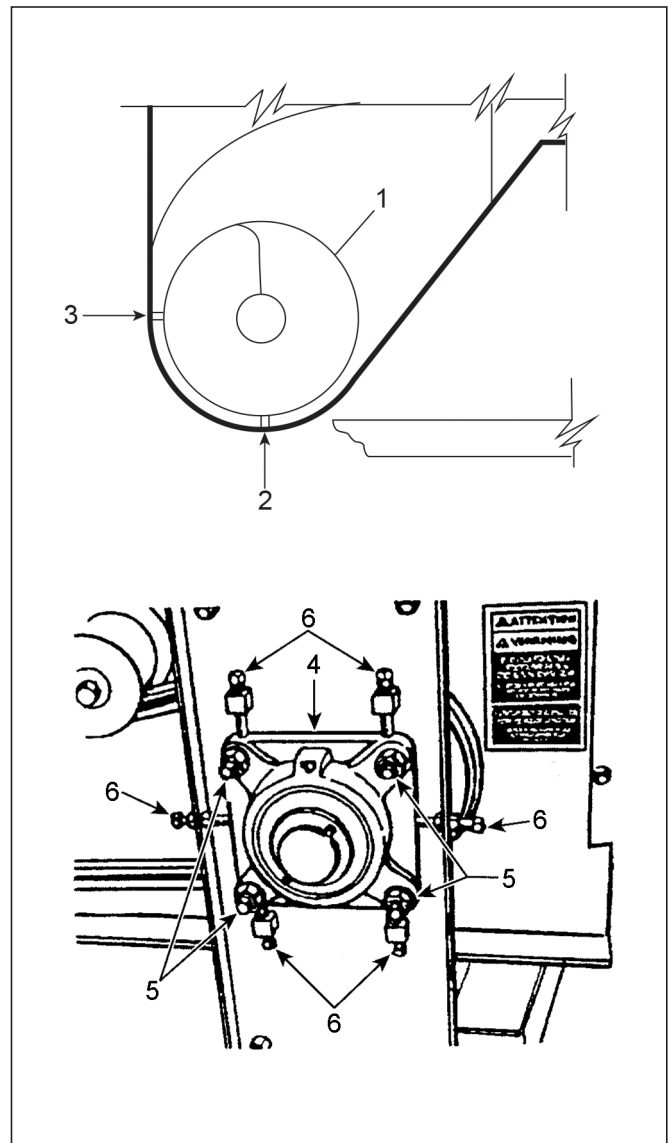
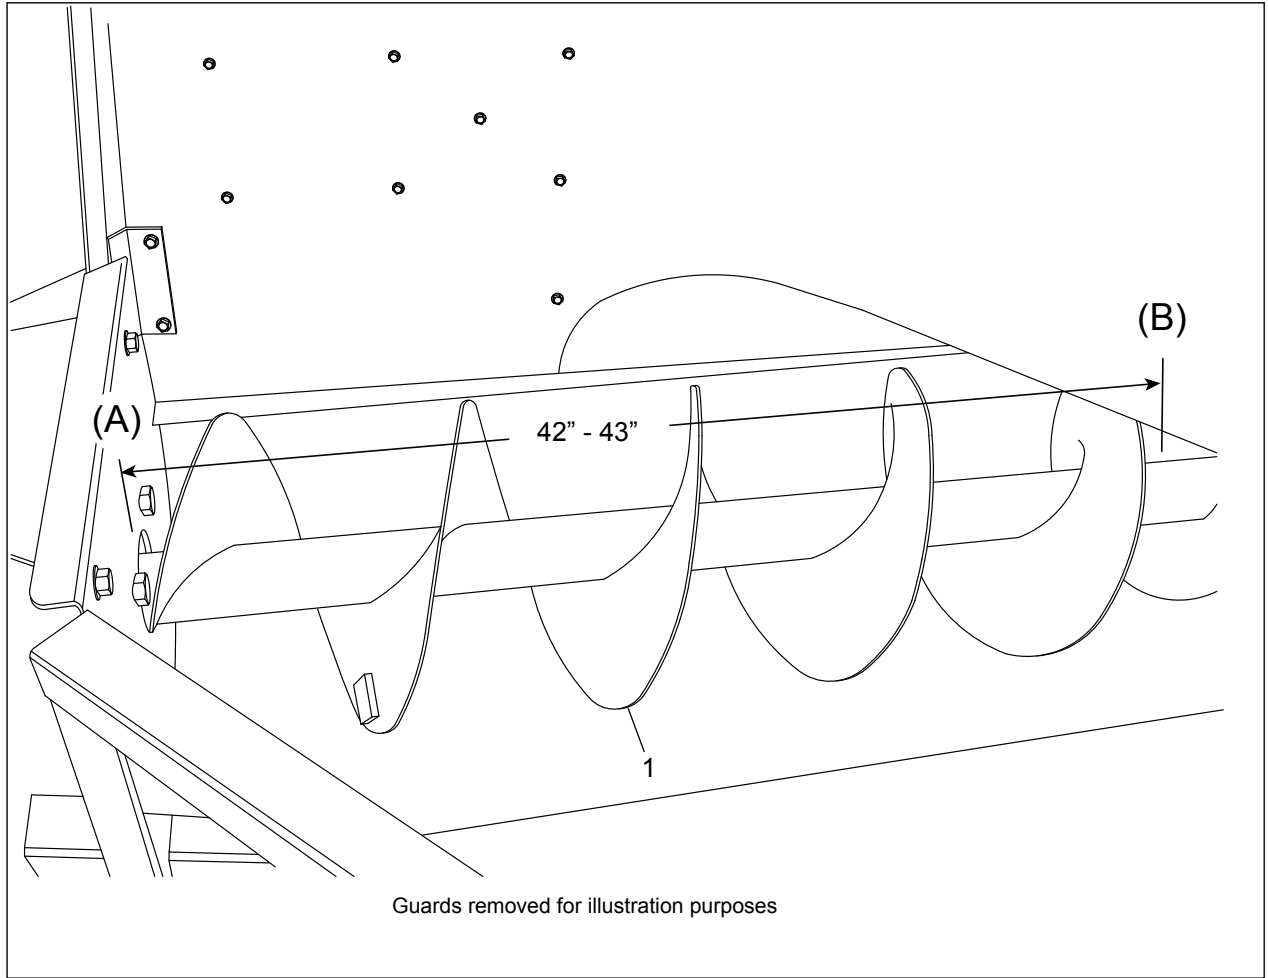

Figure 63 Feeding auger adjustment
Figure 64
## AUGER ADJUSTMENT FIGURE 63 AND FIGURE 64
The auger (item 1) should be adjusted so that clearance (B) at approximately 42" to 43" (106 to 110 cm) is 1/4" (6 mm) bigger than clearance (A) near the auger bearing (item 4 in Figure 63), as shown in Figure 64. This clearance must be obtained in two places: between the auger and the bottom of the bottom (item 2) and also between the auger and the side (item 3).